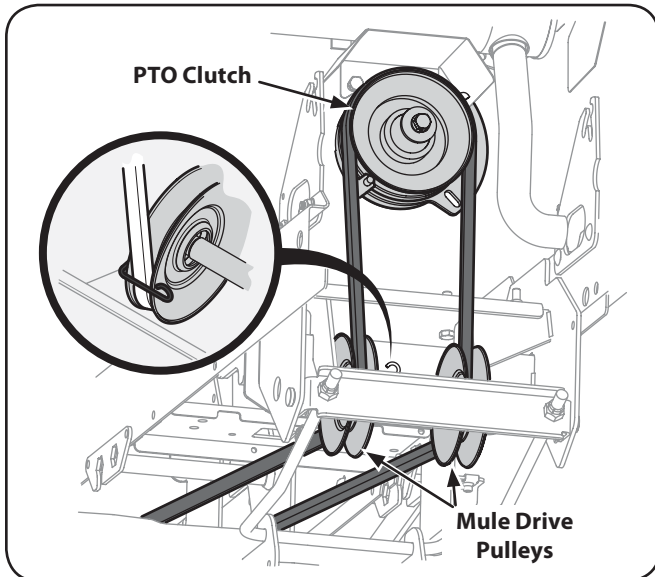

Figure 7-8
6. Feed the belt forward and remove from around the mule drive pulleys (See Fig. 7-8 on page 29) and the tractor's PTO clutch pulley.
1. Working from the front of the tractor, route the belt around the PTO clutch pulley, with the 'V' side of the belt seated in the pulley. Carefully feed the belt downward and route it in the two mule drive pulleys. See Fig. 7-8.